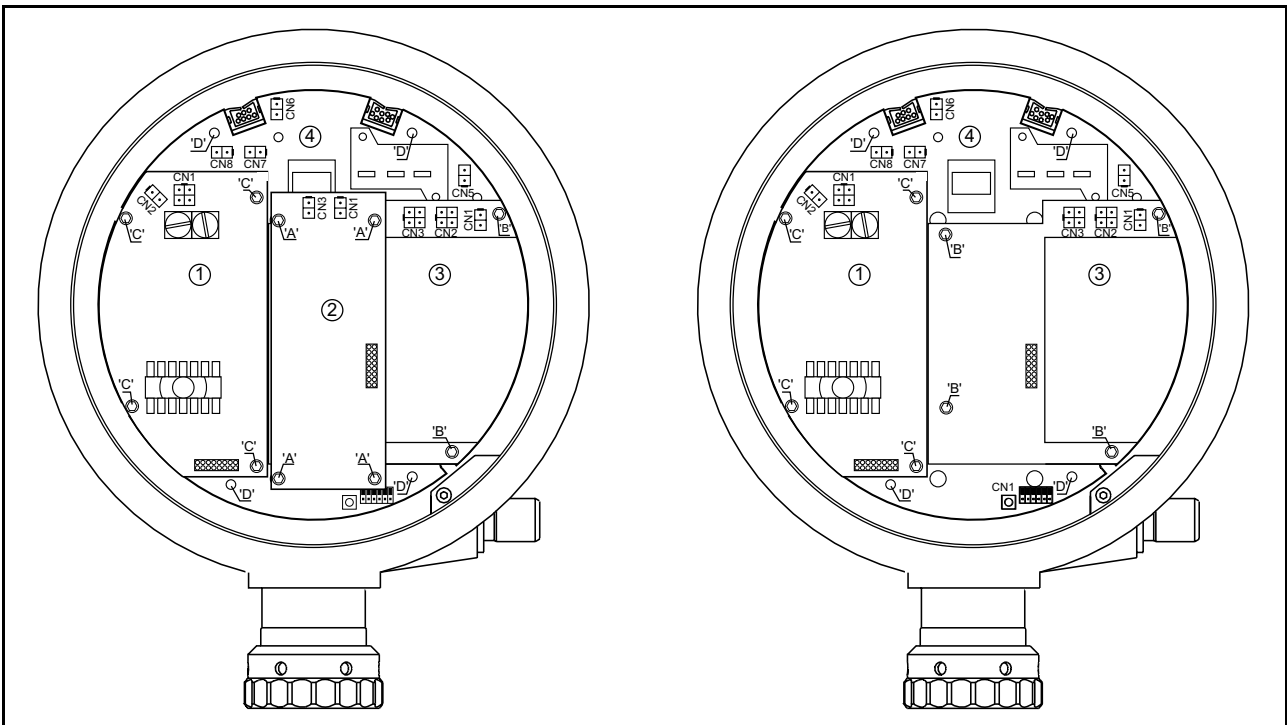

Figure 4.3 Removing of boards for changing software (EPROM's)
Locate ICU_HPO board (refer to figure 4.3 and to Appendix C).
Locate ICU_HPI board (refer to figure 4.3 and to Appendix C).
Loosen the 4 Allen head screws, marked "A" in figure 4.3 (use Allen head key 2.5 mm).
Locate ICU board (refer to figure 4.3 and to Appendix C).
Loosen the 4 Allen head screws, marked "B" in figure 4.3 (use Allen head key 2.5 mm).
Loosen the 4 Allen head screws, marked "C" in figure 4.3 (use Allen head key 2.5 mm).
Loosen the 4 Allen head screws, marked "D" in figure 4.3 (use Allen head key 3 mm).
The RFB-2 / DAB board is now visible (refer to figure 4.3 and to Appendix C).